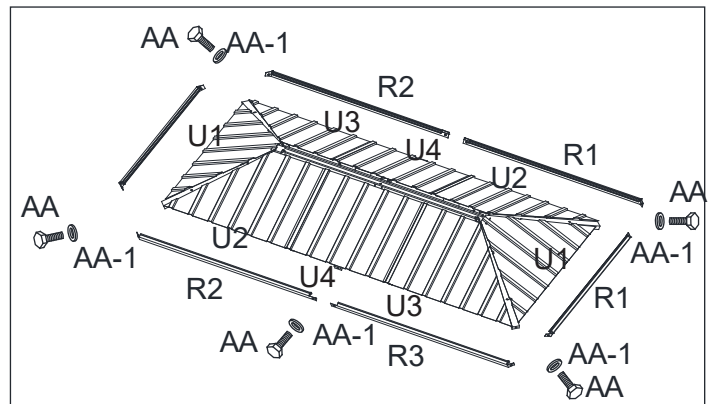

Figure 13-4
13.4: Attach the Roof Vent Side Trim - Long Side (R1/R2) and Roof Vent Side Trim - Short Side (R3) to the Sides of Roof Vent Frame (P1, P2 and P3) using Bolts (AA) and Steel washer (AA-1). Repeat for all sides. Tighten all Bolts, See Figure 13-4.